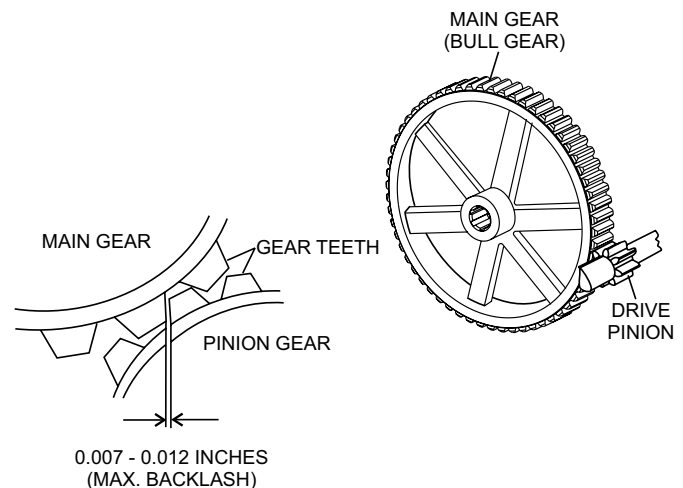

Figure 44. Drive Pinion and Main Gear (Backlash)
3. Using your hand, slightly move (rock) the drive pulley back and forth to determine the amount of backlash. Insert a feeler gauge between the gears to determine the backlash distance. Backlash should range between 0.007–0.012 inches (Figure 44).